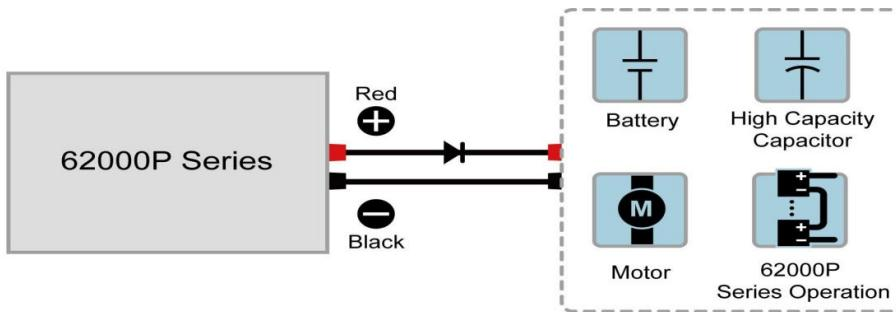

Figure 1-1
14. If the output port is connected to a battery or inductance load (like a motor), connect a diode in series to prevent the load current from flowing back and damaging the device (see Figure 1-1). **Do not** reverse the positive and negative connections. It could damage or short circuit the power supply.